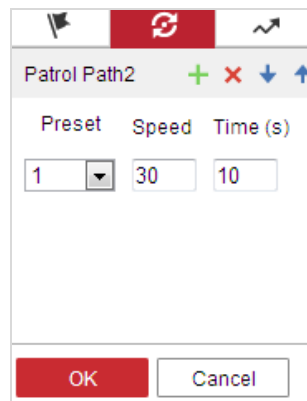

Figure 4-4 Adding Presets
3. Click  to enter the adding interface of preset, as shown in Figure 4-4.